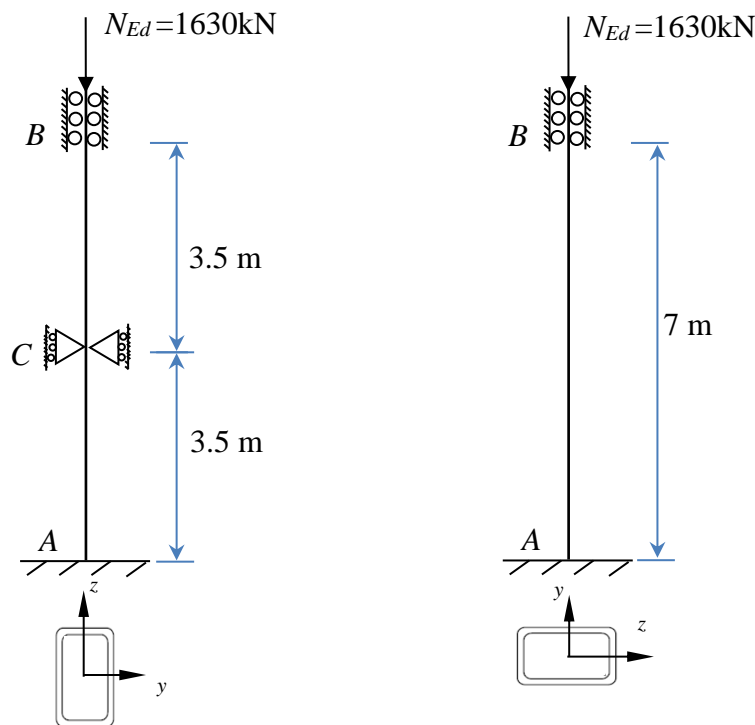

Figure 2
A compression member is concentrically fixed supported at both A and B ends while allowing to slide only in vertical direction at the B end (i.e. fixed ended compression member) as shown Figure 2. The member AB is braced at the mid span C to prevent lateral deflections in the minor principal plane (i.e. to prevent lateral deflection to the y -direction). The grade of steel is S355 and length of the member is 7 m. The member is subjected to a design axial compressive load (N_{Ed}) of 1630kN at end B .
- (a). If the cross section of the member shown in Figure 2 is RHS 250×150×10 (RHS Table 1.5 of “STÅLKONSTRUKJONER”),
- (b). If the cross section of the member shown in Figure 2 is RHS 300×200×6.3 (RHS Table 1.5 of “STÅLKONSTRUKJONER”),